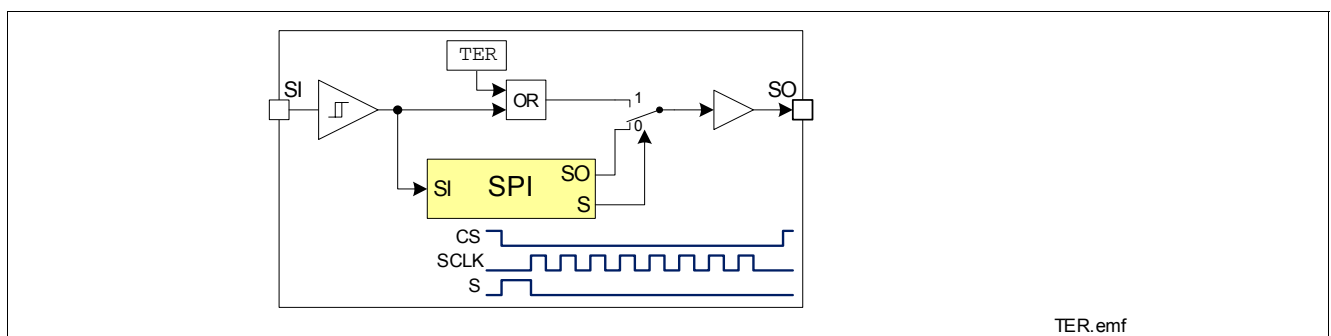

Figure 9 Transmission Error Flag on  $\overline{SO}$  Line
- $\overline{SO}$  changes from high impedance state to high or low state depending on the logic OR combination between the transmission error flag ( $\overline{TER}$ ) and the signal level at pin  $\overline{SI}$ . As a result, even in daisy chain configuration, a high signal indicates a faulty transmission. The transmission error flag is set after any kind of reset, so a reset between two SPI commands is indicated. For details, please refer to Figure 9. This information stays available to the first rising edge of  $\overline{SCLK}$ .